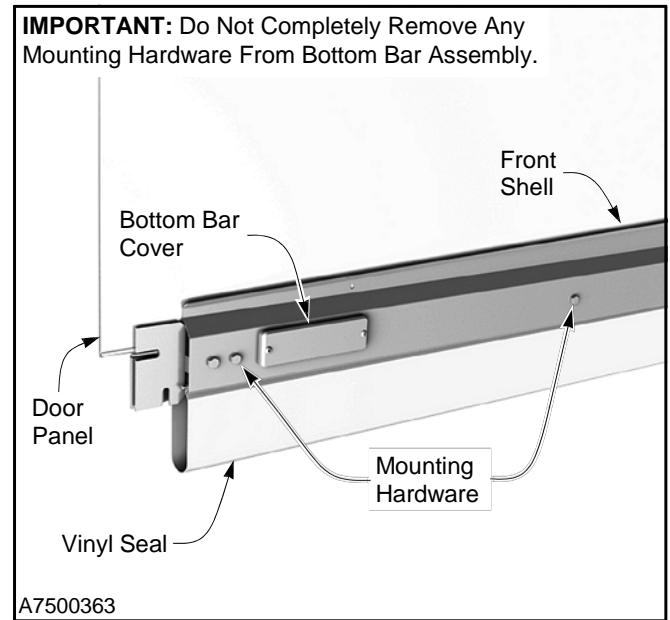

**Figure 50**
12. Pressure wash the front side of the drum assembly, including the hinge. Then spray the back side of the drum. (See Figure 50.)